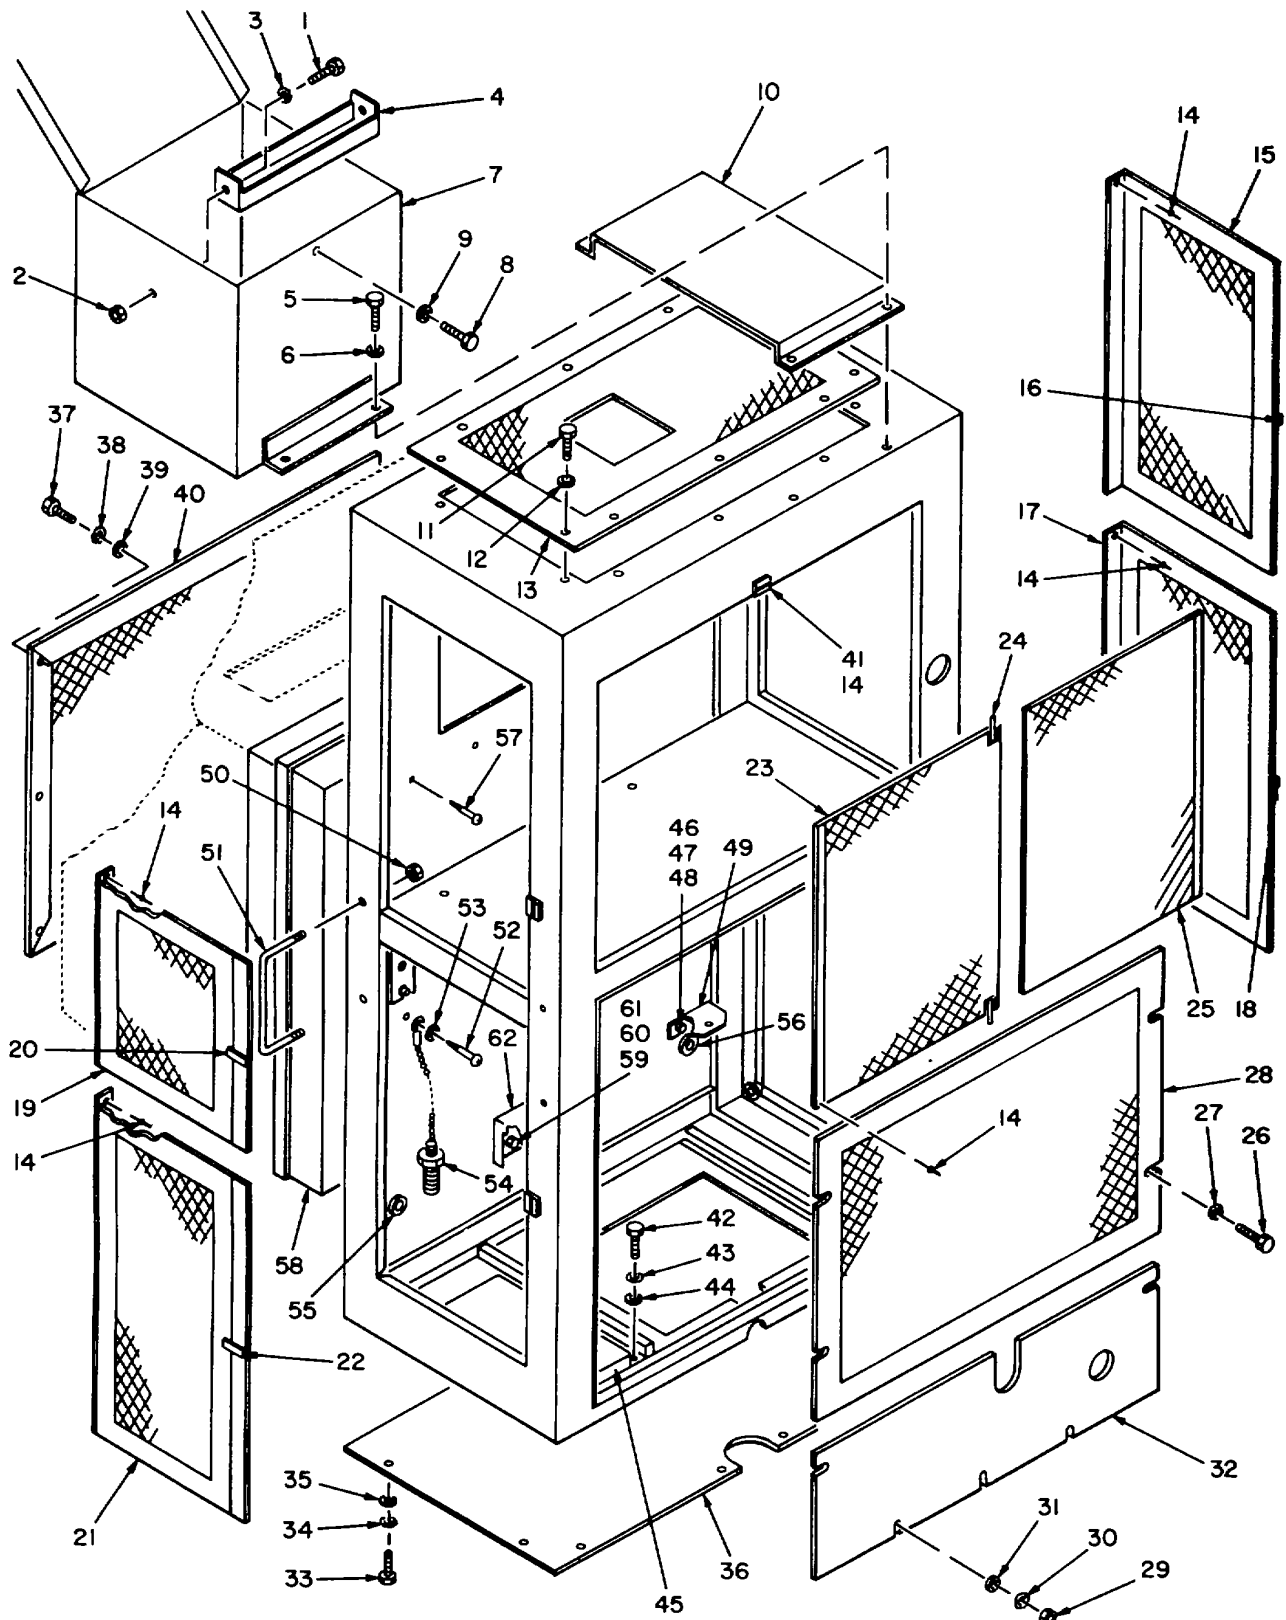

Figure 4-20. Structural Components (Sheet 1 of 2)
4-58. BATTERY BOX (FIG. 4-20)**a. Removal.**
(1) Remove top screen (13) by unscrewing screws (11) and washers (12).
(2) Remove doors and grille as shown in figure 4-20, if necessary.